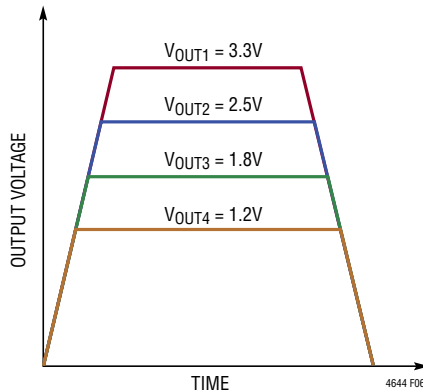

Figure 6. Output Coincident Tracking Waveform
The coincident output tracking can be recognized as a special ratiometric output tracking which the master’s output slew rate (MR) is the same as the slave’s output slew rate (SR), as waveform shown in Figure 6.
The expression shows that the diode voltage decreases (linearly if  $I_0$  were constant) with increasing temperature and constant diode current. Figure 6 shows a plot of  $V_D$  vs Temperature over the operating temperature range of the LTM4644.